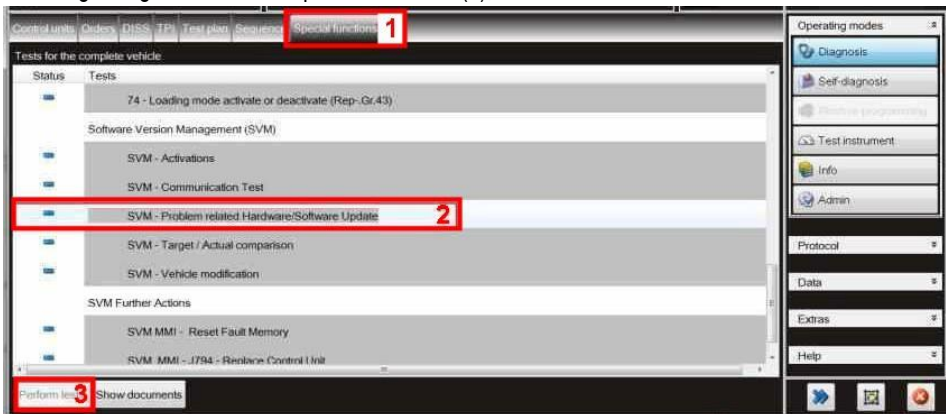

Figure 2
4. Referring to Figure 2 - Select Special functions (1), Select SVM – Problem related Hardware/Software Update (2), Select Perform test (3)